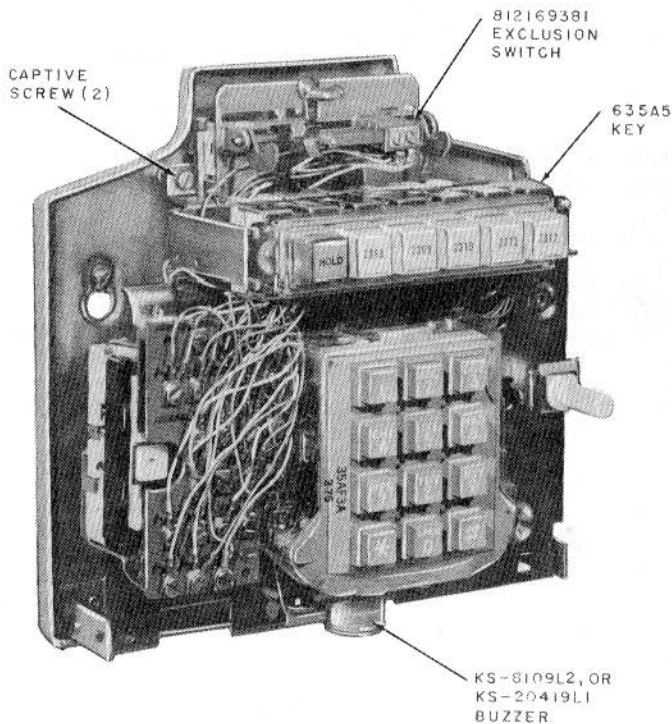

Fig. 5—2851CM Telephone Set With Exclusion (Housing Removed)
- (1) With chassis in lowered position, fasten switch assembly to line switch bracket using screw provided in kit. Screw must be inserted in hole from rear of bracket.
- (2) Position switch assembly horizontally (Fig. 5 or 10) and fasten securely.